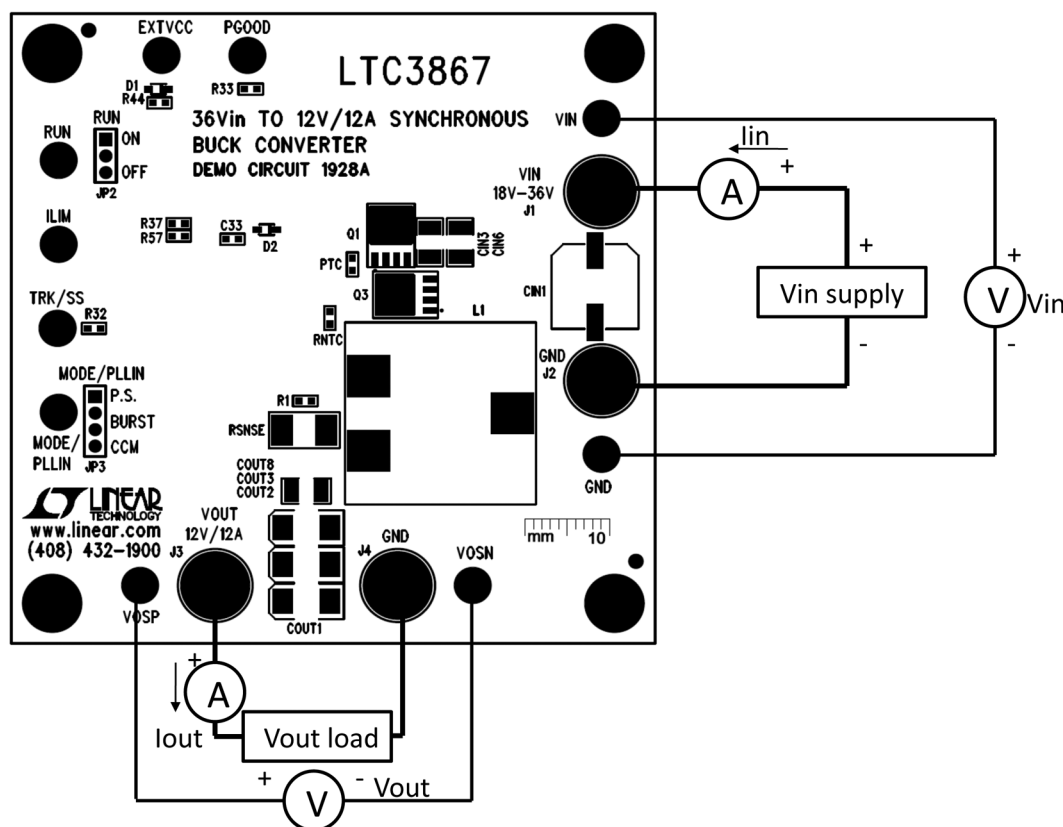

Figure 1. Test Setup of DC1928A
2. With power off, connect the input power supply, load and meters as shown in Figure 1. Preset the load to 0A and V_{IN} supply to 24V.